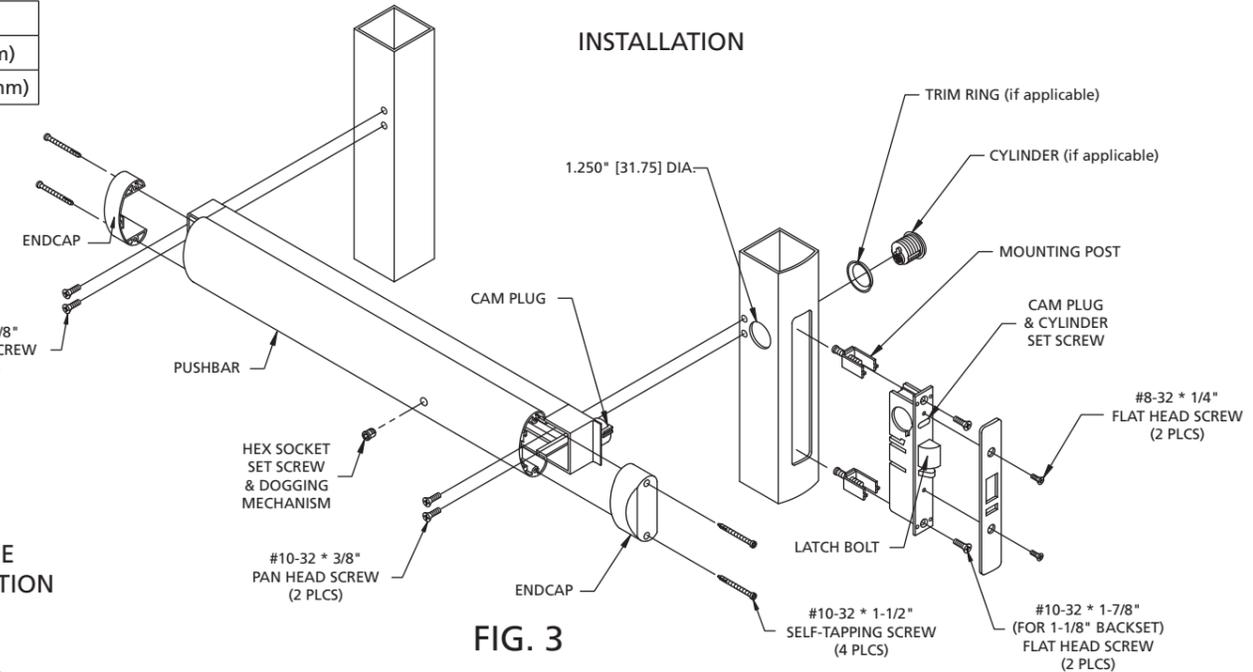

FIG. 3
B. MORTISE LOCK INSTALLATION (Fig. 3):
C. EXIT DEVICE INSTALLATION (Fig. 3):